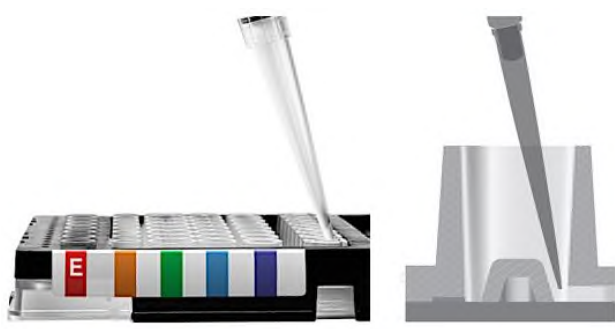

Figure 10. Sample recovery technique
- Set a 200 μ L pipette to 200 μ L. While using the thumb/forefinger to reinforce the seal on the well in Column 5, aspirate slowly from the bottom right side of the Sample Well of the non-initiated sample where the well and channel meet (see **Figure 10**) and transfer to a new microtube.